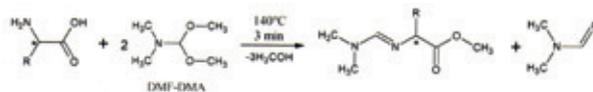

Figure 5. Derivatization of  $\alpha$ -amino acids with DMF-DMA (26).
Specifically for chirality experiments, COSAC was equipped with three fused silica columns coated with CSPs (20, 21, 23), see Figure 4. Chirasil-L-Val was chosen for chiral  $\alpha$ -amino acids and Chirasil- $\beta$ -Dex was selected for chiral hydrocarbons. Non-bonded 2,6-O-dipentyl-3-O-trifluoroacetyl- $\gamma$ -cyclodextrin (CD-G-TA) (24) was selected for unspecified compounds. In contrast to Chirasil-L-Val, the cyclodextrin selectors are not prone to radio-racemization (25). Unfortunately, native amino acids are involatile and have to be derivatized prior to GC analysis. The traditional two-step protocol to form N-perfluoroacyl-O-alkyl esters appeared unsuitable for space experiments. Hence, the one step reaction with N,N-dimethylformamide/O,O-dimethylacetal (DMF-DMA) (see Figure 5) was developed (26). Notably, only valine, isoleucine, aspartic acid and phenylalanine can be resolved using this method. The Chirasil- $\beta$ -Dex column was operated shortly after Philae's touchdown on Chury (Uwe Meierhenrich told me), but no data have been disclosed by ESA. Subsequent measurements will only be possible when the batteries of Philae – the lander, which is currently lying dormant – are recharged at an elevated solar altitude. No news on this topic is currently forthcoming...